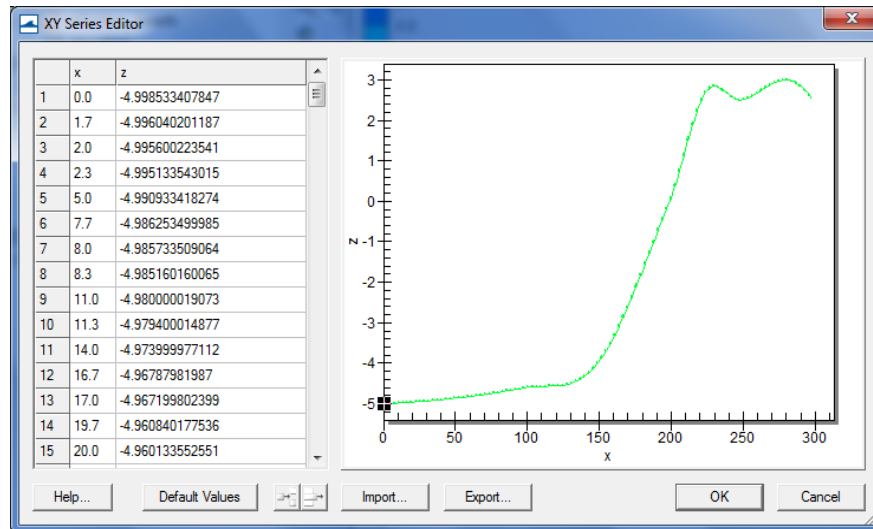

Figure 14 Transect attributes – the raw data.
3. Right click on the transect arc and select “Attributes...” (or double click) to bring up the attributes dialog (Figure 14). The data can be selected from this spread sheet and pasted to another program. It may also be exported using the export button. (Extreme care should be used if these values are edited. The “x” value corresponds to a distance along the arc. If these values are edited, the coordinates along the arc are no longer consistent with the geometric placement on the arc. In extreme cases, you may change the “z” values, but it is recommended that the geometry of the transects come from a scatter set.)